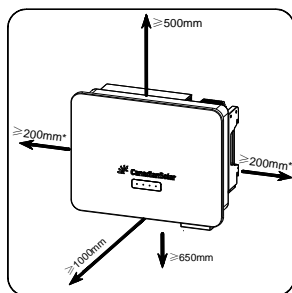

FIG 3-3 Single installation space
1) Reserve enough clearance around the inverter to ensure sufficient space for heat dissipation, shown as FIG 3-3. (Under the premise of ensuring installability, the gap between the left and right sides of the inverter can be reduced to 200mm, and it is recommended to be  $\geq 500\text{mm}$ .)